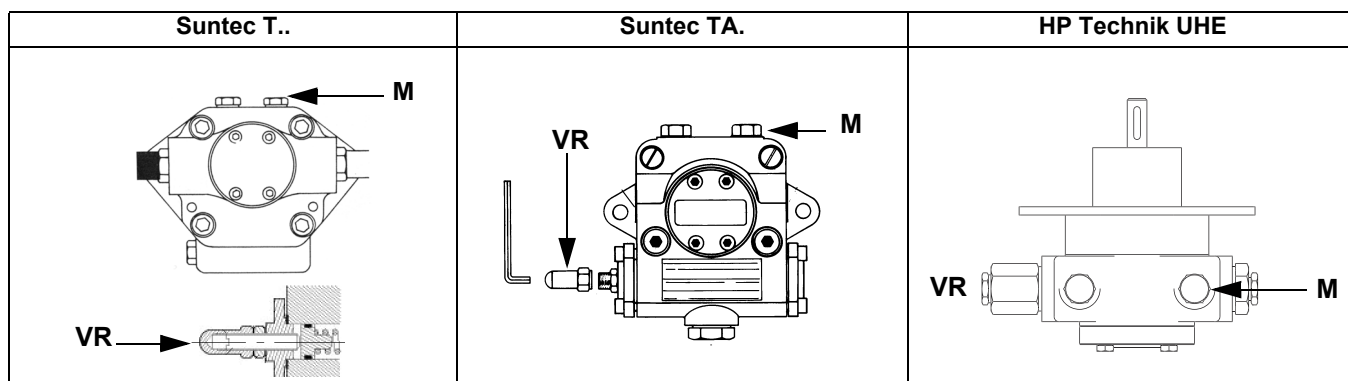

Fig. 11
The position of the indicator in the dial indicates the value of the outlet pressure calculated as a percentage of the full scale of the PS sensor (Fig. 11)
- 3 bleed the air from the **M** pressure gauge port (Fig. 11) by loosening the cap without removing it, then release the contactor.
- 5 Only if necessary, adjust the supply pressure as follows (see related paragraph); insert a pressure gauge into the port shown on Fig. 12 and act on on the pump adjusting screw **VR** (see Fig. 11) as to get the nozzle pressure at 20bar (Monarch or Fluidics nozzles - see page 38-38).